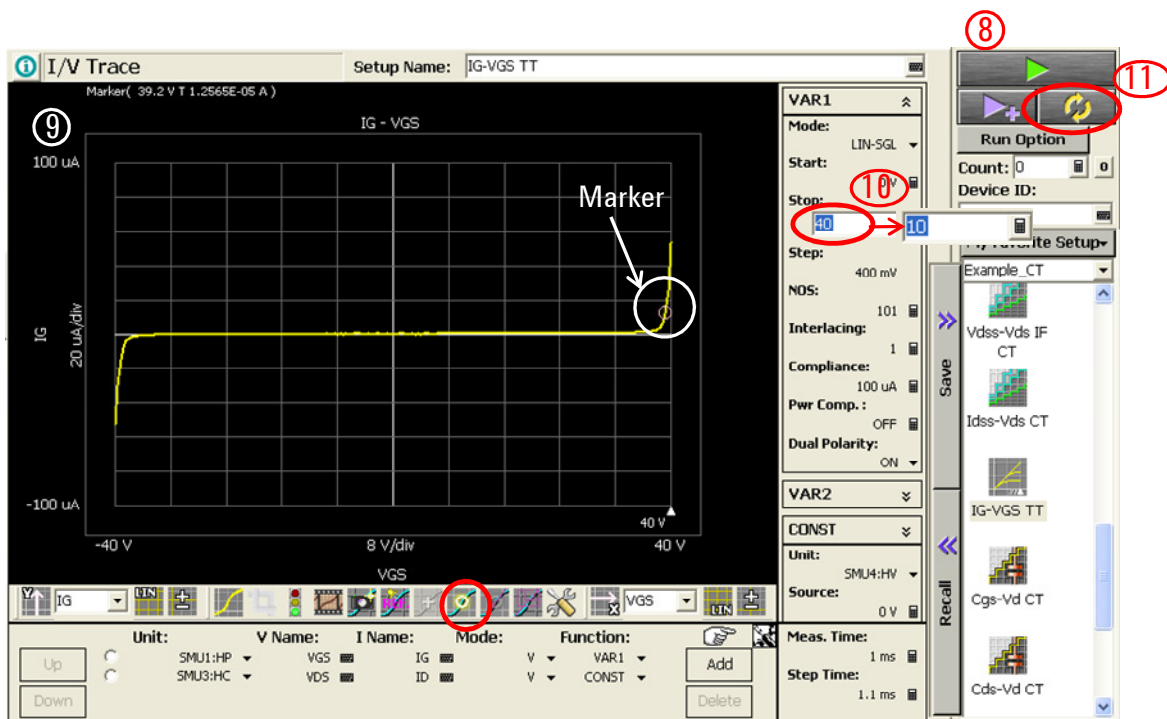

Figure 3-38. IG-VGS TT Tracer Test example.
Step 9. The measurement starts and the graph appears as shown in figure 3-38.